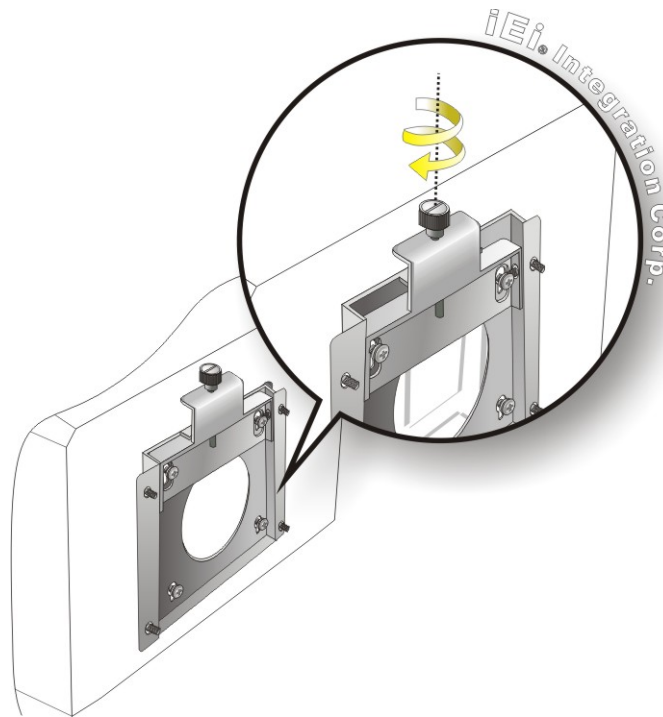

Figure 3-8: Securing the IOVU-210AD-RK39
**Step 9:** Secure the panel PC by fastening the retention screw of the wall-mounting bracket (**Figure 3-8**).